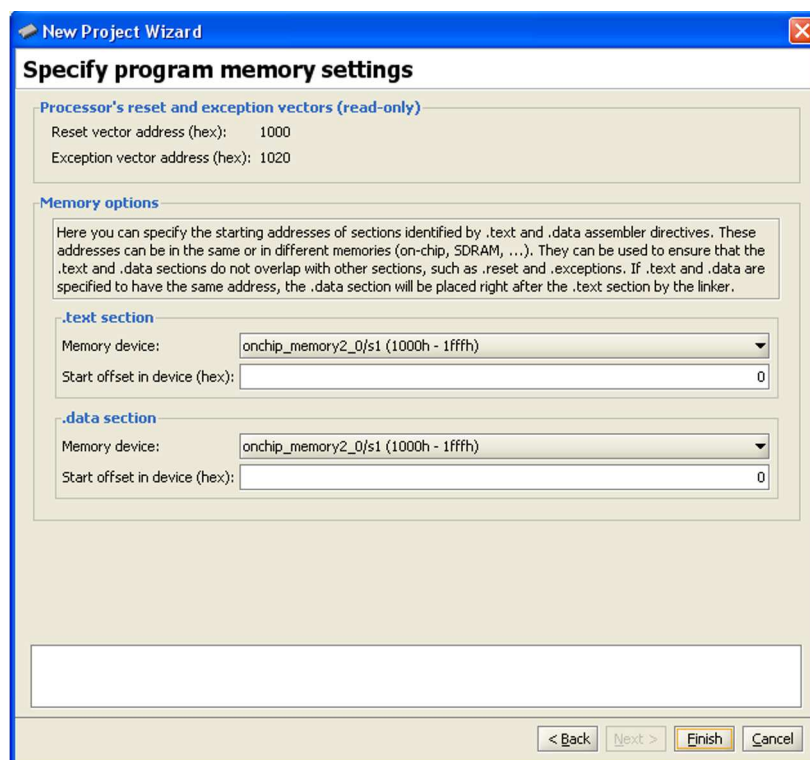

Figure 25. The program memory settings window.
10. The Altera Monitor Program also needs to know where to load the application program. In our case, this is the memory block in the FPGA device. The SOPC Builder assigned the name *onchip_memory2_0* to this block. As shown in Figure 25, the Monitor Program has already selected the correct memory device.
An application program written in the C language can be handled in the same way as the assembly-language program. A C program that implements our simple task is given in Figure 25. Enter this code into a file called *lights.c*.